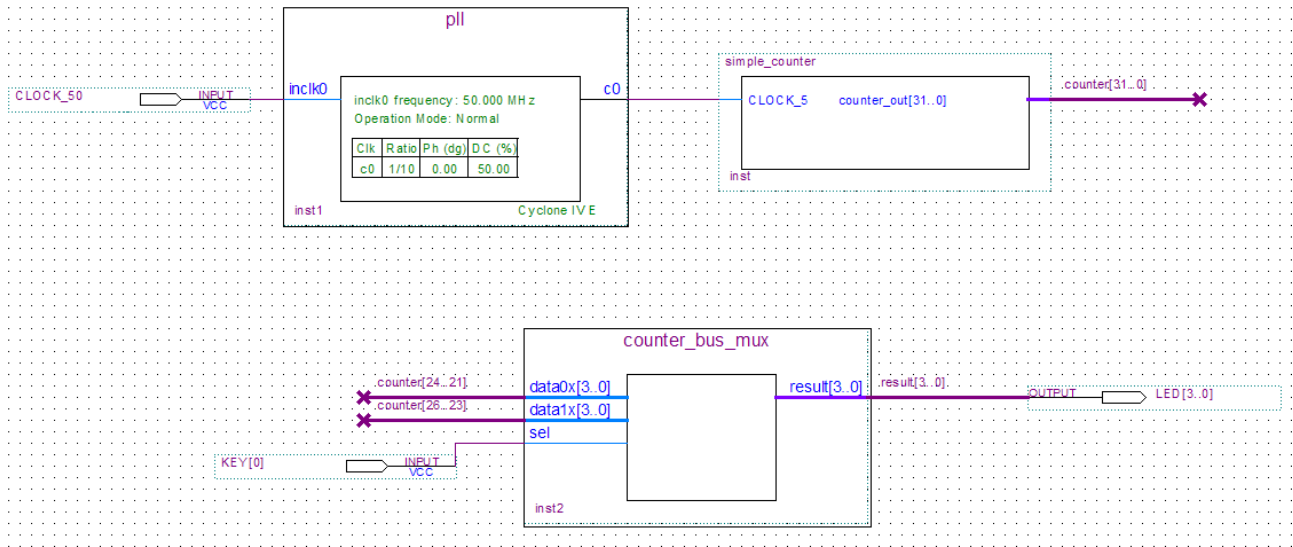

Figure 6-40 Adding the KEY [0] Input Pin
24. Rename the input pin as KEY [0] (see **Figure 6-40**).